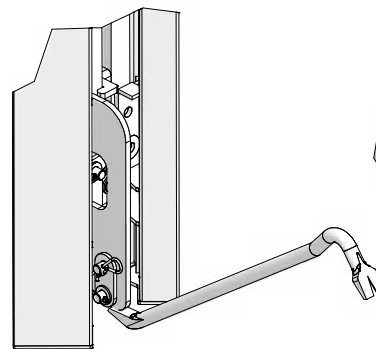
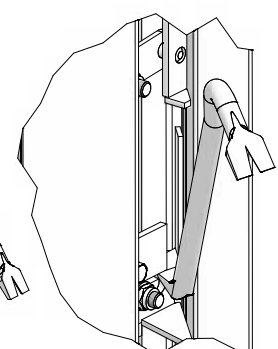

Fig. 31.3
Fig. 31.4
4. Activate the stripping corner with a crowbar. The bell-crank lever is pushed upwards using the crowbar. The crowbar can be applied at the bottom at position A (Fig. 31.3) or in the middle at position B (Fig. 31.4). This breaks the bond between the formwork facing and the concrete without much effort.